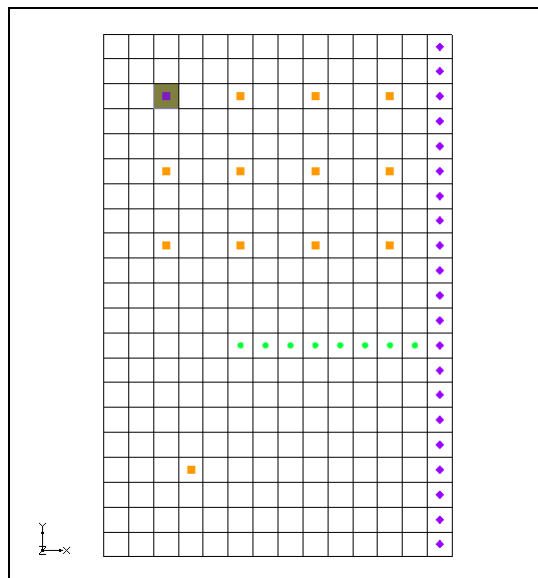

Figure 3. Selected MNW well cell.
- If necessary re-select the grid cell shown in Figure 3, the one containing the top-left well (in Cell ID 31).